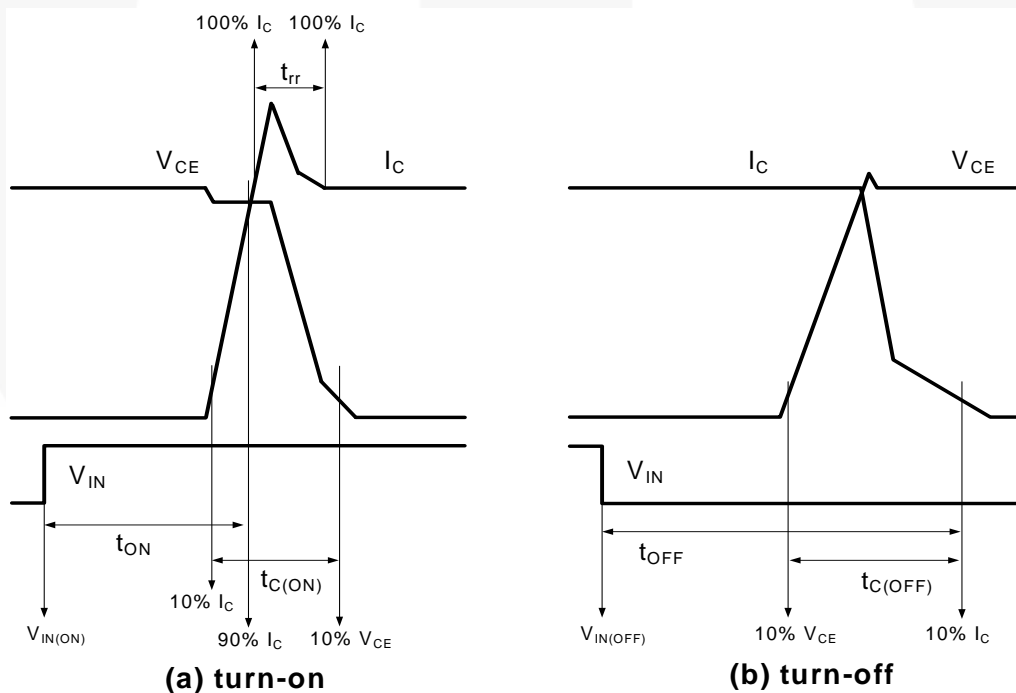

Figure 4. Switching Time Definition
6.  $t_{ON}$  and  $t_{OFF}$  include the propagation delay time of the internal drive IC.  $t_{C(ON)}$  and  $t_{C(OFF)}$  are the switching time of IGBT itself under the given gate driving condition internally. For the detailed information, please see Figure 4.